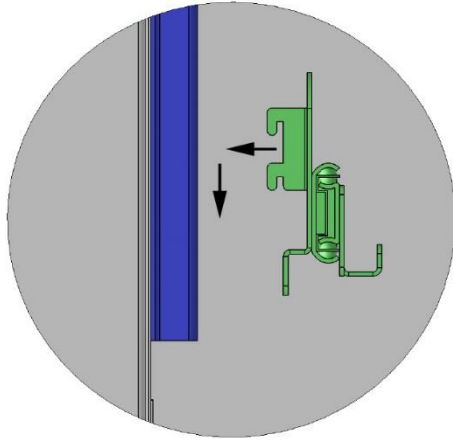

Figure 6: Sliding Shelf Mounting Bracket Installation
1. Insert the sliding bracket's two pairs of tabs (front and back) into the slots on the shelf standards. See Figure 6.